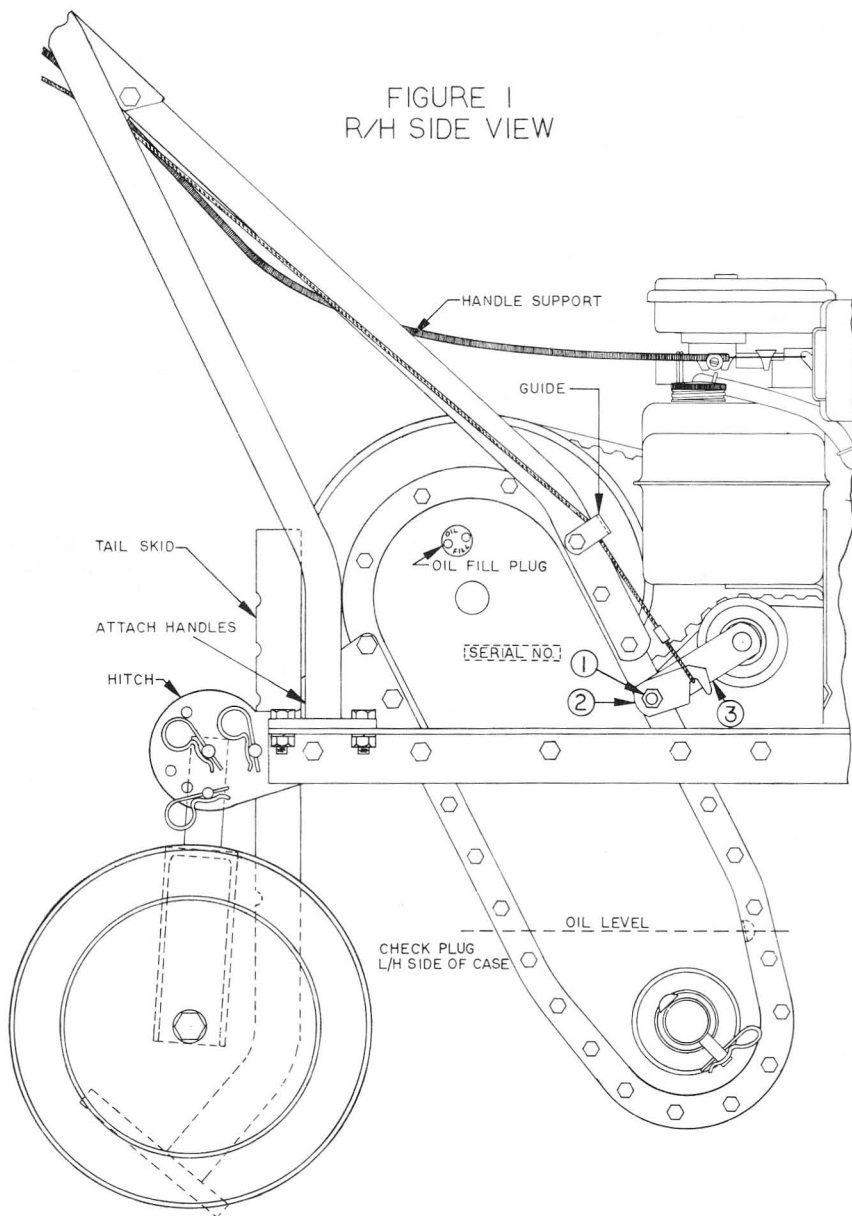

FIGURE 2
3. To each handle, assemble the cross brace, a handle support, and a guide, as shown in FIG. 2. **Do not tighten nuts at this time.**
4. Slide throttle casing and clutch cable through guides as shown in FIG. 2.
5. Fasten throttle control to engine. Then attach the throttle control lever to the left hand handle as shown in FIG. 2. Loosen the swivel screw on said lever and move control lever down to low speed position. Insert wire through the swivel screw until carburetor throttle closes. Tighten swivel screw and bend or cut off loose end of wire around swivel.
7. Attach center of clutch cable adjustment chain to spring as shown in FIG. 2. Slip the belt off of the 10 inch pulley and slip lower cable loop over adjustment clip as shown in FIG. 1. Reinstall belt on the 10 inch pulley.
- A. Loosen nut holding adjustment link. (1)
- B. Pull up on idler arm taking some slack out of the belt. (2)
- C. Push down on the adjustment link taking the slack out of the clutch cable. (3)
- D. Tighten nut firmly. (1)
5. Minor adjustment can be made by using the links on the adjusting chain. FIG. 2.